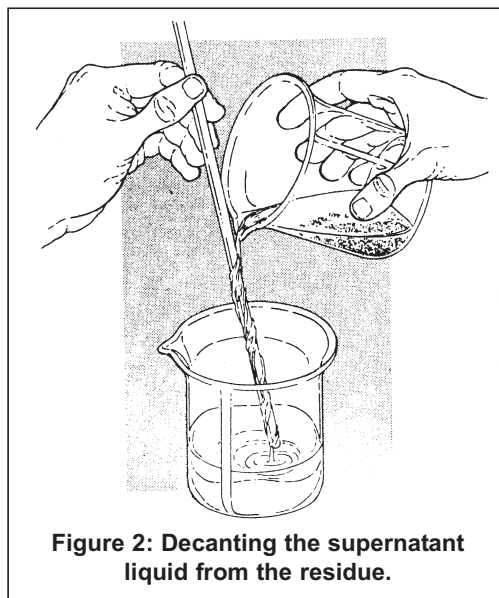

Figure 2: Decanting the supernatant liquid from the residue.
8. Let the crystals settle in the beaker. Carefully decant the solution. Decant means to pour off liquid, leaving solid behind, as shown in Figure 2. Add 5 mL of dilute silver nitrate solution and stir gently until any flecks of copper disappear. Carefully decant again. Wash the residue with 10 mL of water and carefully decant. Wash and decant at least three more times. You may neglect the few particles that may float over with the wash water since the amount is usually not weighable.